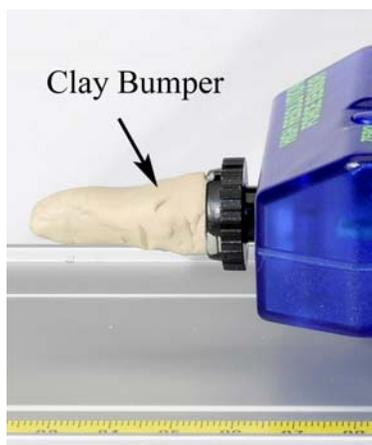

Figure 3: Clay Bumper
5. Attach the weak spring bumper to the Force Sensor. The Clay Bumper (see Fig. 3) will be used later.
12. Replace the spring with the clay bumper and repeat the collision. The cone shape shown in Figure 3 is just a suggestion. Rename this run "Clay".